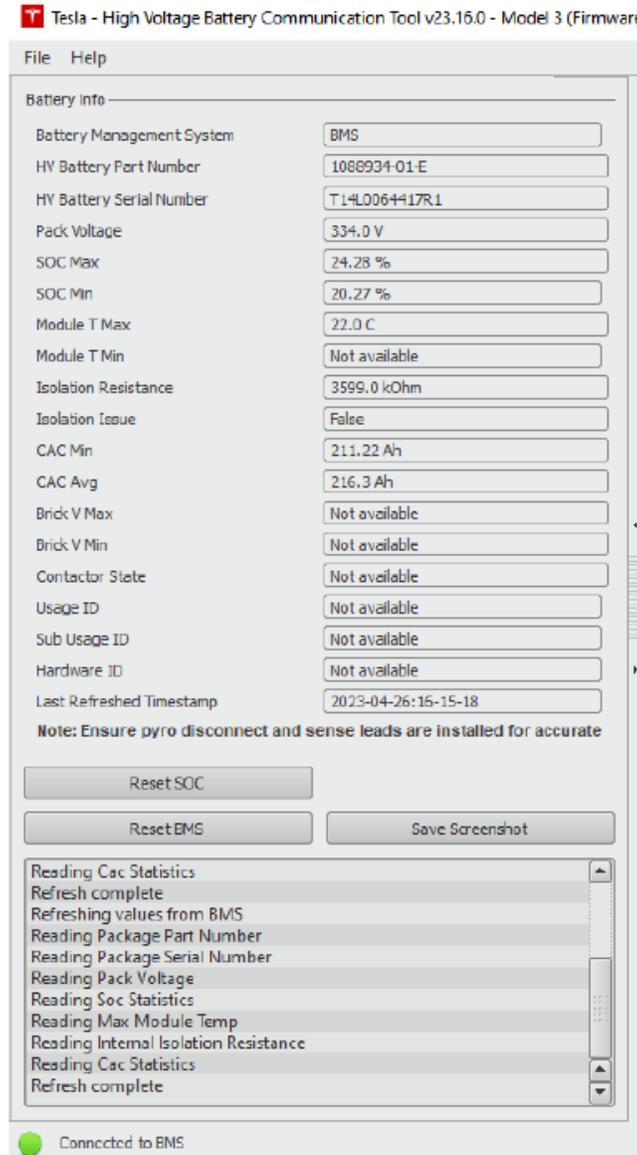

Figure 11
8. Read the battery vitals in the “Battery Info” section (Figure 11).